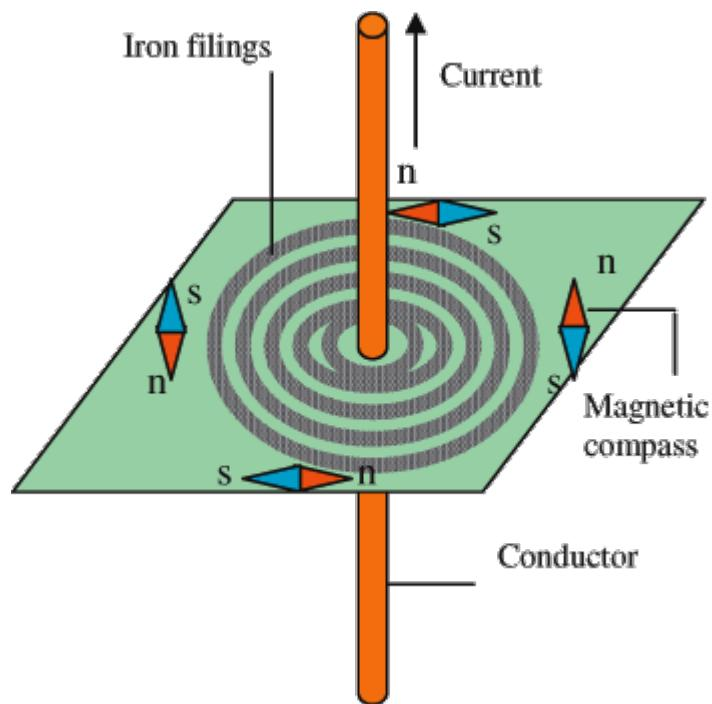

Figure 5.21 : Magnetic field around a current conductor
- (i) Pass a straight conductor through a cardboard as shown in Figure 5.21 and switch on the current.